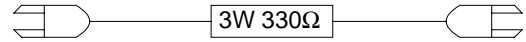

Fig. 2
1. Short-circuit the J483 and the GND of the DECK ASSY using the jig shown in Fig. 2.
Note2: Short-circuit the Shield Case and the J483 using the jig shown in Fig. 2 before attaching the DECK ASSY.